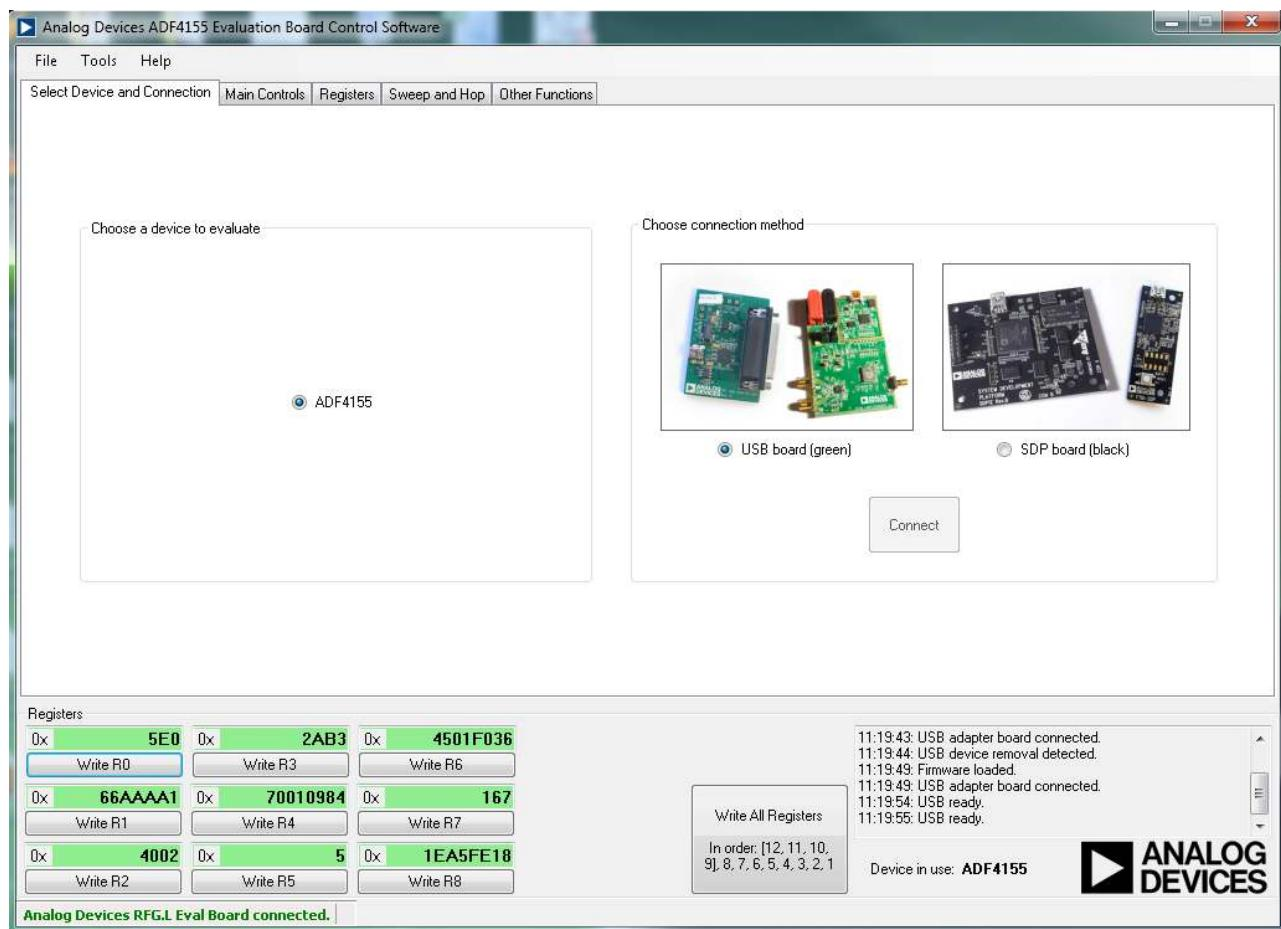

Figure 2. Software Front Panel Display—Select Device and Connection
2. On the **Select Device and Connection** tab, choose **ADF4155** and **USB board (green)**, and then click **Connect** (see Figure 2).